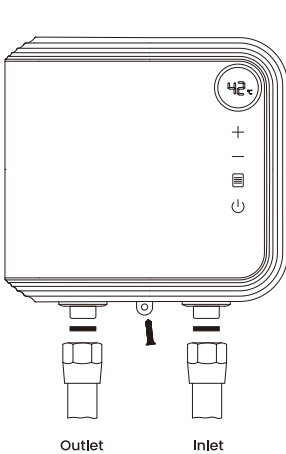
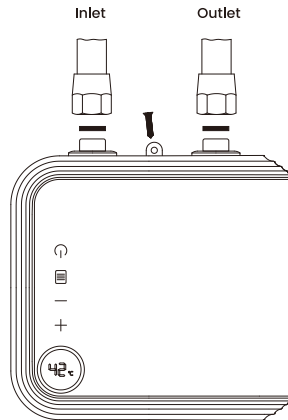

Figure 11
Figure 12
Step 6: Connect the water pipe to the water inlet and outlet connections, and remember to install the rubber sealing ring (Figure 11)(Figure 12).
4. Use G1/2" water connections to fit the appliance. Ensure proper connections of the inlet and outlet pipes.(Figure 11)(Figure 12)